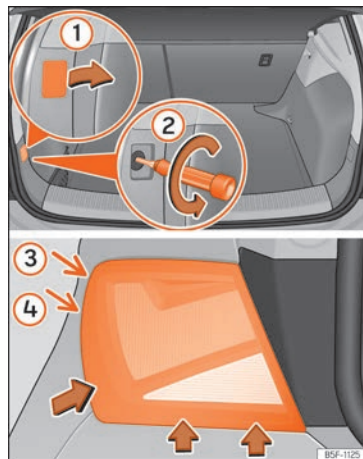

Fig. 63 Luggage compartment: location of the bolt securing the tail light unit. Remove the rear light unit from side panel. »
- Remove the cover by prying the flat side of a screwdriver into the recess and remove the cover from the opening »» Fig. 63 ①.
- Carefully loosen the screw located behind the cover with a screwdriver, turning it anti-clockwise (arrows) »» Fig. 63 ②.
- Tilt the light in the direction of the arrows until it comes out of its housing (positions ③ and ④) »» Fig. 63.